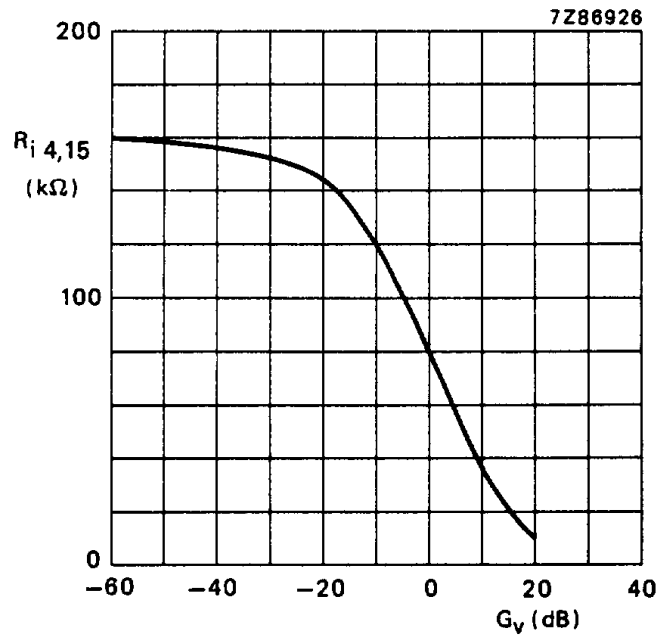

Fig.4 Input resistance (Ri) as a function of gain of volume control (Gv). Measured in Fig.1.
- Equation for input resistance (see also Fig.4)